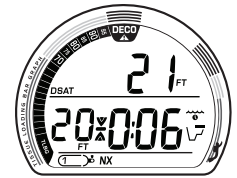

Fig. 71 - DECO STOP MAIN
**DECO STOP MAIN**, information includes (Fig. 71) -